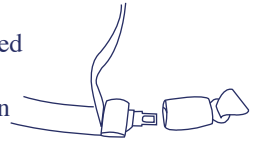

Fig. 18-1
- 3.3.1) A lap belt that is manually adjusted and will remain tight while the vehicle is in motion is suitable for use with the Safety Seat. Pulling the belt through the buckle after the buckle is fastened tightens this type of seat belt. The center rear seat belt is most often this type of seat belt (Fig. 18-1).